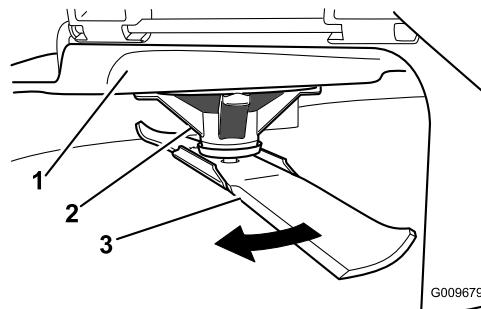

Figure 45
2. While wearing thickly padded gloves, or other adequate hand protection, slowly rotate the blade to be measured into a position that allows effective measurement of the distance between the cutting edge and the level surface the machine is on (Figure 45).